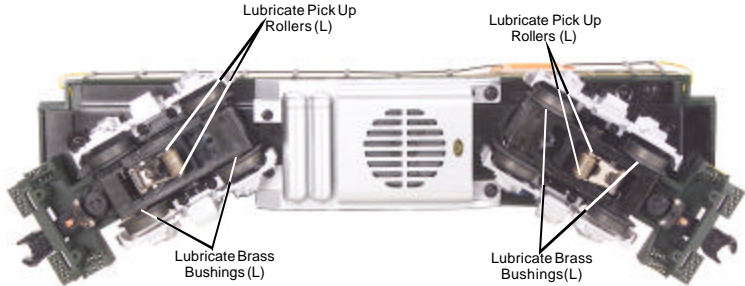
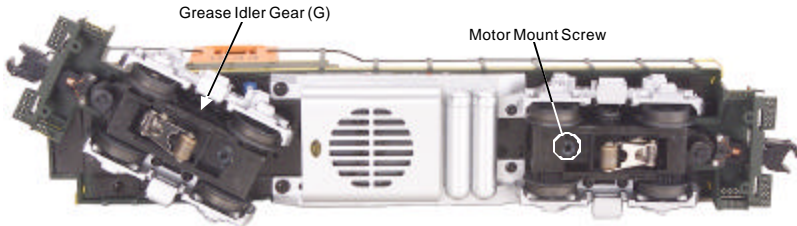

Figure 5. Lubrication Points on the Locomotive
Figure 7. Locations of Greasing Points on the Locomotive
1. Although the engine was lubricated at the factory, it is important that you lubricate the chassis before operation. Lightly grease the outside idler and drive gears (marked “G” in Fig. 7 on pg. 13) with lithium-based grease to prevent them from squeaking and premature wear. Use light household oil and follow the lubrication points (marked “L” in Fig. 5 on pg. 12). Do not over-oil. Use only a drop or two on each pivot point.
You should regularly lubricate the engine to prevent it from squeaking. Use light household oil and follow the lubrication points marked “L” in Fig. 5. Do not over-oil. Use only a drop or two on each pivot point.
2. Once the body is removed, remove the trucks by unscrewing the black Phillips motor mount screw located on the underside of the drive trucks (see Fig. 7 on pg. 13).
Lubricate the outside truck block idler and drive gears with grease. Use the diagram shown in Figure 7 above as a guide and add grease to the points marked with a “G.”